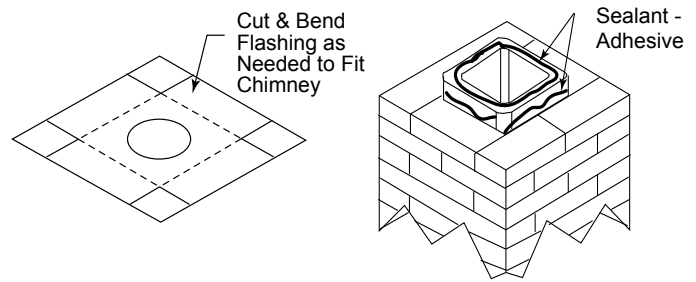

Figure 50
3. Secure the flashing (705C) to the top of the masonry chimney using a bead of non-hardening sealant-adhesive. If the flashing is larger than the top of the chimney, then cut and fold flashing as needed to fit chimney. (Fig. 50)